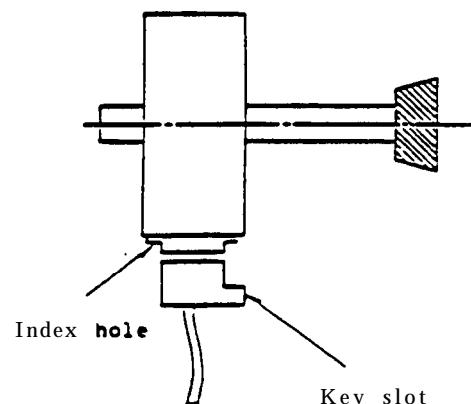

Fig. 6.7
- (2) Unless the directions in which the magnet and detector point tally, as shown in Fig. 6.7, a high level of vibration results **at both ends of the magnet** and orientation is disabled.